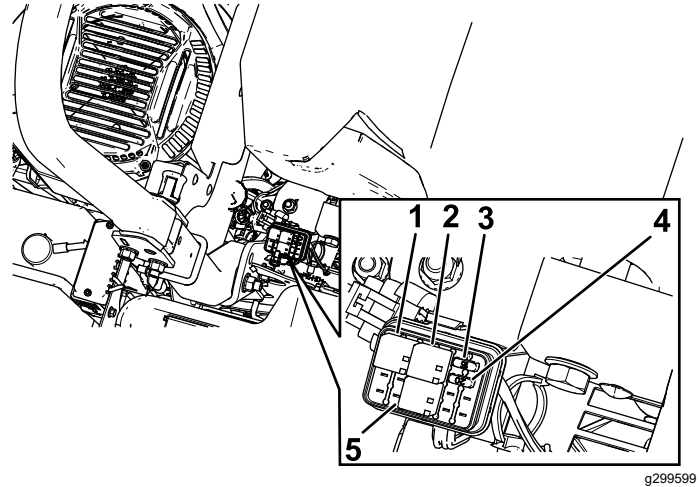

Figure 54
2. Install a new fuse (Figure 54).